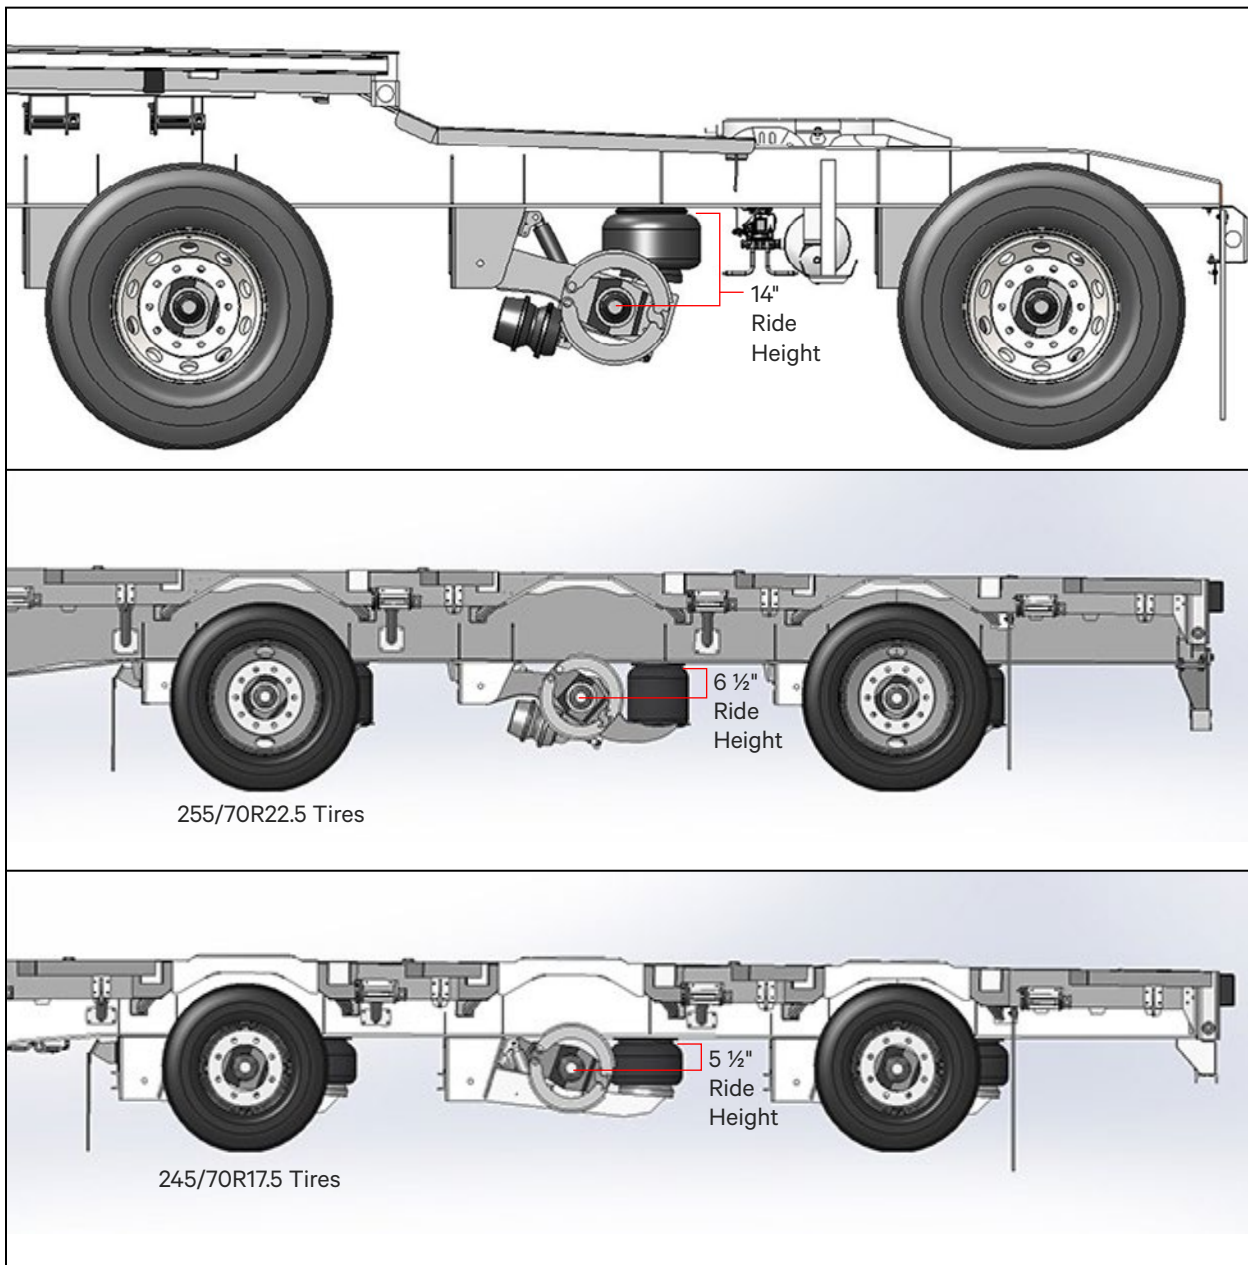

Figure 28 – Suspension Ride Height Setting
To ensure continued performance from the air ride suspension it is important to check that the axles are operating at the correct ride height. This check requires a tape measure. Figure 28 illustrates how to measure the ride height. All Lead, Pull and single semi trailers use a 14" ride height suspension. Step deck trailers use a 6 ½" ride height with 255/70R22.5 tires or 5 ½" ride height with 245/70R17.5 tires..
- g. Ride height is defined as the distance from the suspension mounting surface (bottom of trailer frame) to the centre of the axle tube. Since there is no way to measure to the centre of the axle, simply measure to the top of the axle tube and then add half the diameter of the tube. Most Flat and Step Deck Trailers use 5 3/4" diameter axles, therefore, add 2 7/8" to the tape measured distance to arrive at your actual ride height. See Figure 28.